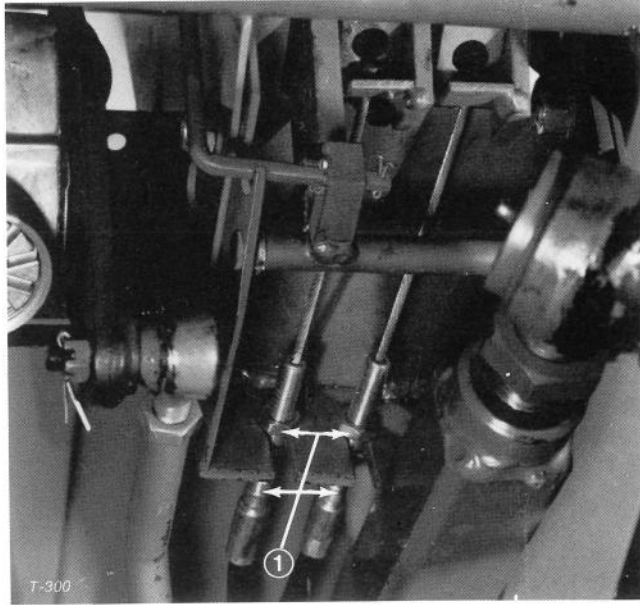

Figure 53
1. To reduce free travel of turn pedals — tighten the brakes — loosen front nut on threaded end of brake cable (Fig. 53). Then tighten rear nut to move cable backward until turn pedals have 1/2 to 1 inch (13 to 25 mm) of free travel. Tighten front nut after brakes are adjusted correctly.